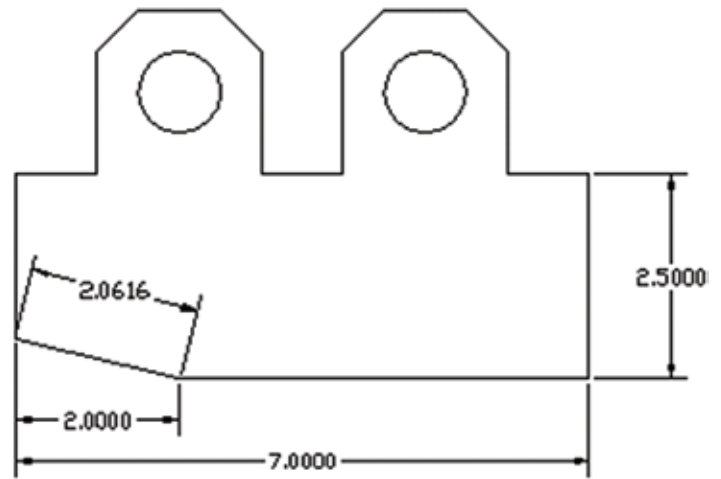

Figure 4.3
- You should now have a dimension showing the true length of the line, (2.0616 units) Note Figure 4.3.